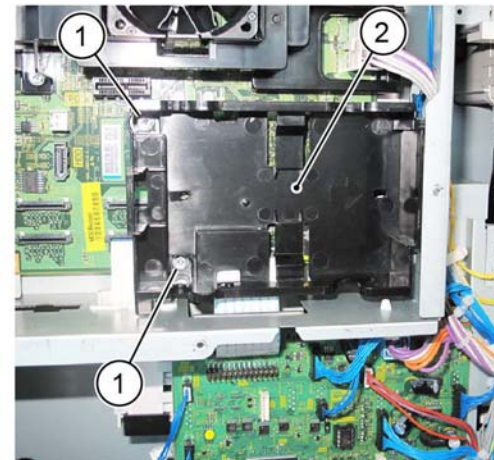

Figure 3 HDD bracket removal
4. If the machine had an HDD assembly installed, remove both screws (1), then the HDD bracket (2), Figure 3.